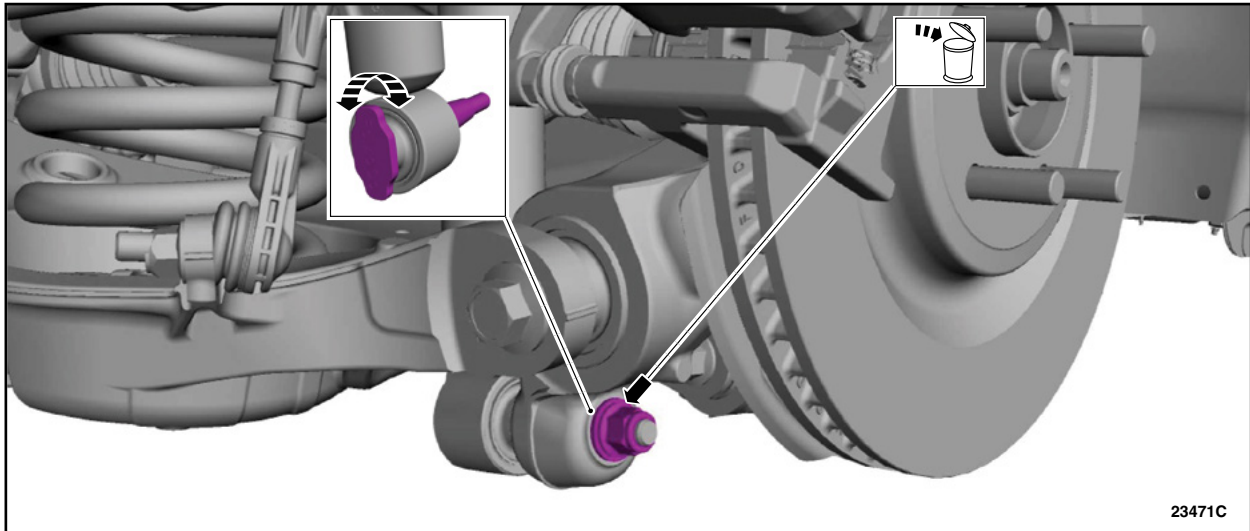

FIGURE 3
7. Remove and discard the **LH** rear shock absorber lower nut. See Figure 3.